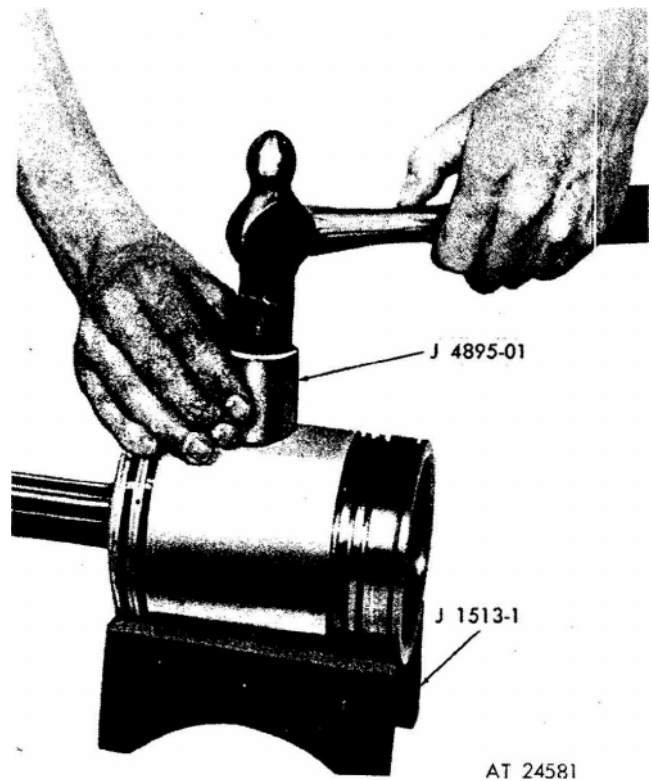

Figure 9. Installing piston pin retainer.
2. Rest the piston in the holding fixture, as shown in figure 9.